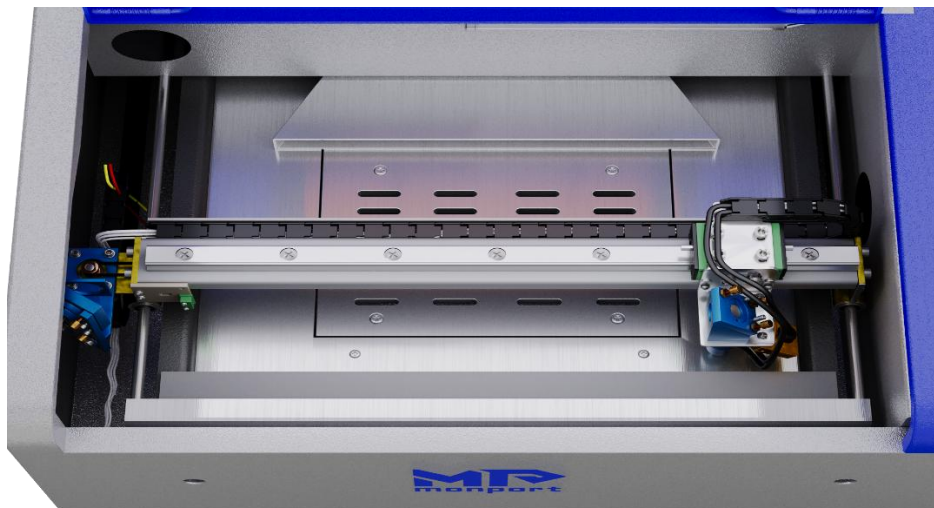

Fig. 5-3 - The second Mirror in Position B
- a. After aligning the first and second mirrors in Position A, slowly and gently move the x. axis beam to Position B (Figure 5-3) far away from the laser tube.